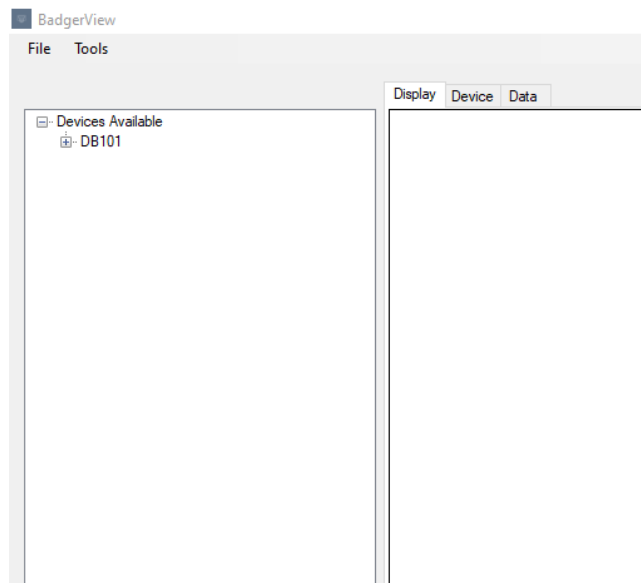

Figure 2: BadgerView device listing
6. On startup, BadgerView will scan the local network and populate devices identified into the list on the right. Figure 2 shows a thermocouple data logger (model number DB101) has been located. Devices also can be searched for manually by selecting Tool->Find Devices on the top bar.